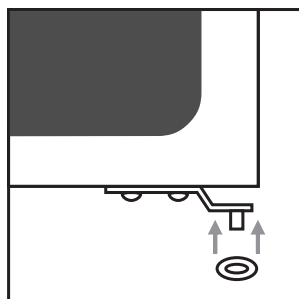

fig. 9c
- Slide the door into the lower hinge. Place the ring between the hinge and the hinge holder (see fig. 9c).